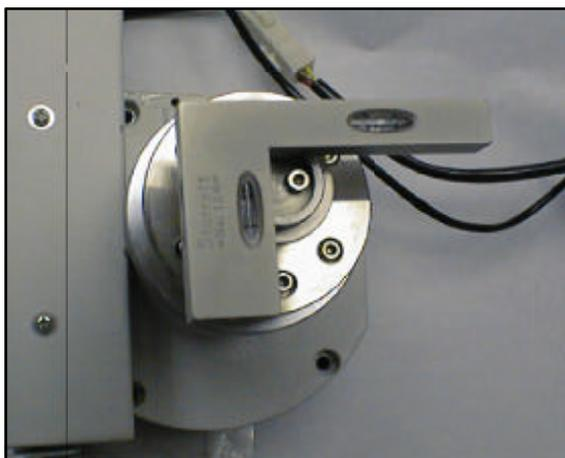

Figure 2-9. Bubble level on goniometer mount.
- 2) Maintaining the same orientation, place the level on the ϕ -axis assembly where the goniometer head will mount, Figure 2-9.